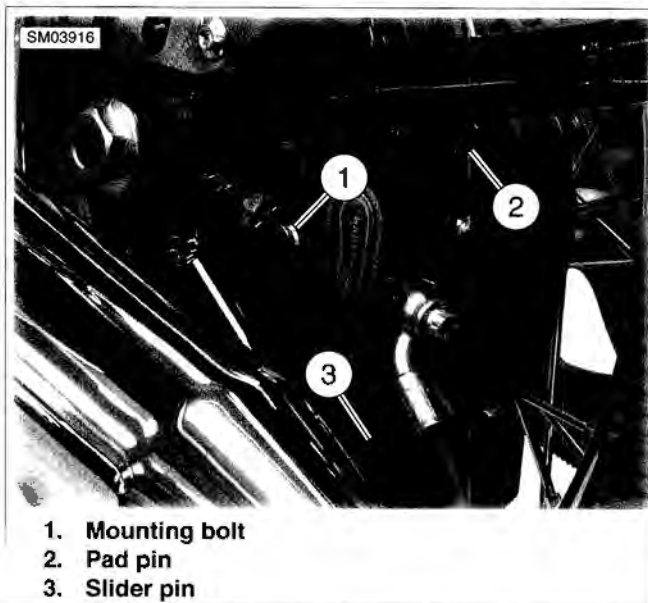

Figure 1-36. Rear Brake Caliper
2. See Figure 1-36. Loosen, but do not remove, pad pin (2) (metric).
3. Remove mounting bolt (1) and slider pin (3). Pull rear caliper with pads away from brake disc.
11. See Figure 1-36. Install new brake pads with pad pin (2) onto caliper using the same orientation as the ones previously removed. Tighten pad pin to 80-120 in-lbs (9.0-13.6 Nm).
13. See Figure 1-36. Install mounting bolt (1) and slider pin (3). Tighten both to 10-14 ft-lbs (13.6-18.9 Nm).